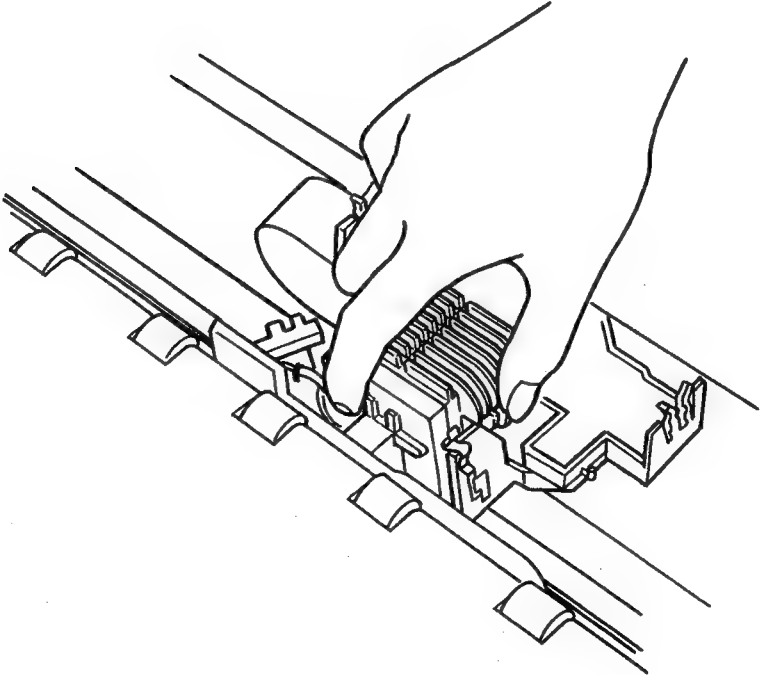

Figure 3-5 Print Head Removal
5. Lift up the print head (see Figure 3-5).